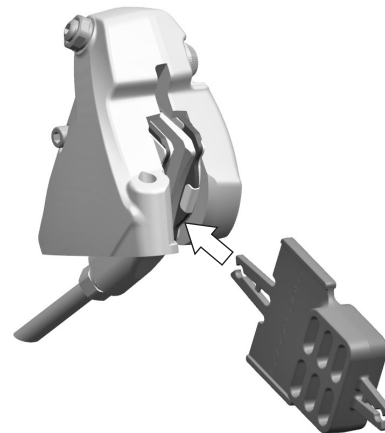
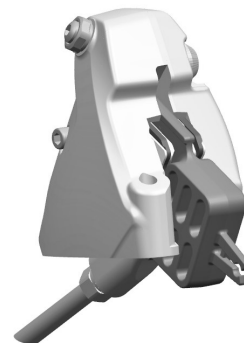

Fig.18
Fig.19
- If you need to remove the wheels from the bike, ensure that you have inserted the transport tool (Fig. 18 / Fig. 19) which prevents the brake pads from coming together if the brake lever is accidentally engaged, making it impossible to insert the disc.